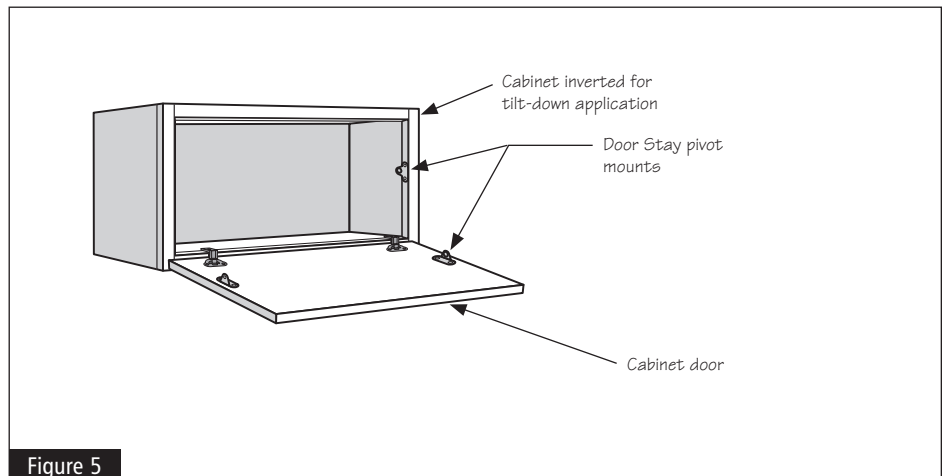

Figure 5
- 4** Rotate cabinet 180° so door tilts down to open. See Figure 5.